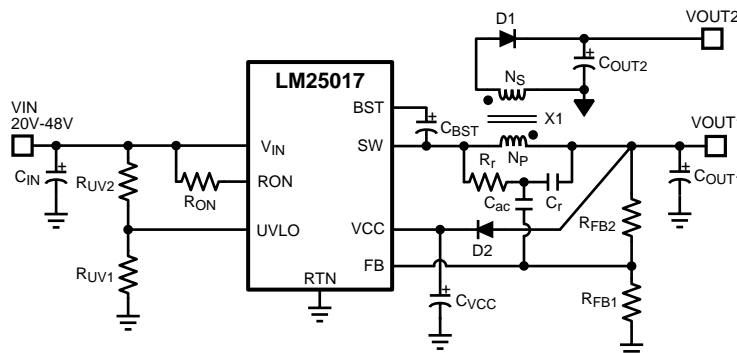

Figure 16. Typical Isolated Application Schematic
An isolated supply using LM25017 is shown in Figure 16. Inductor (L) in a typical buck circuit is replaced with a coupled inductor (X1). A diode (D1) is used to rectify the voltage on a secondary output. The nominal voltage at the secondary output (V_{OUT2}) is given by: